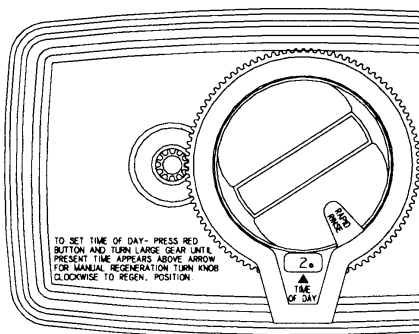
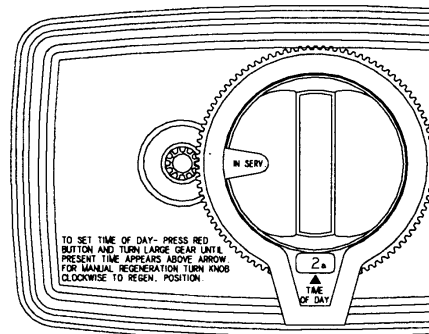
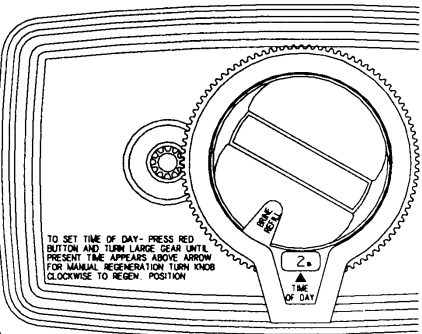

Figure 5
Figure 6
Figure 9
4. Manually advance the conditioner to the rapid rinse position by turning the center knob clockwise until "rapid rinse" appears in the window (Figure 5). Slowly open the bypass valve by moving the bypass lever towards the service position until it is all the way in service. After 1-2 minutes, close the bypass valve by moving the bypass lever to bypass. Manually advance the conditioner to the service position by turning the center knob clockwise until "in service" appears in the window (Figure 6).
7. Manually advance the conditioner to the brine refill position by turning the center knob clockwise until "brine refill" appears in the window (Figure 9). Check that water is being added to the brine tank, then advance to service (Fig. 6)